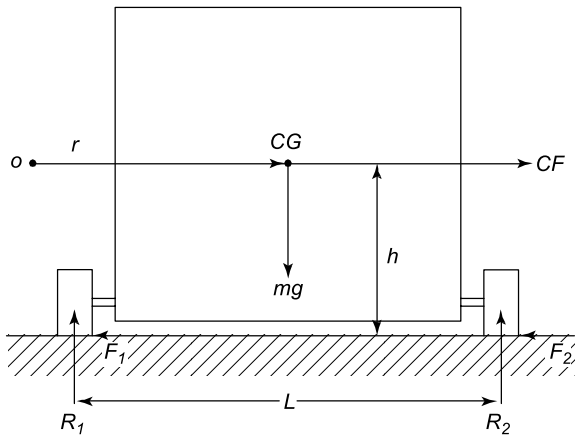

Figure 17.2
If a motorcar travels around a bend, its tyres will have to exert centripetal forces to achieve this. This is achieved by the transverse frictional forces acting on the tyres, as shown in Figure 17.2.
In Figure 17.2, the following notation is used:
**Problem 1.** Determine expressions for the frictional forces  $F_1$  and  $F_2$  of Figure 17.2. Hence determine the thrust on each tyre.